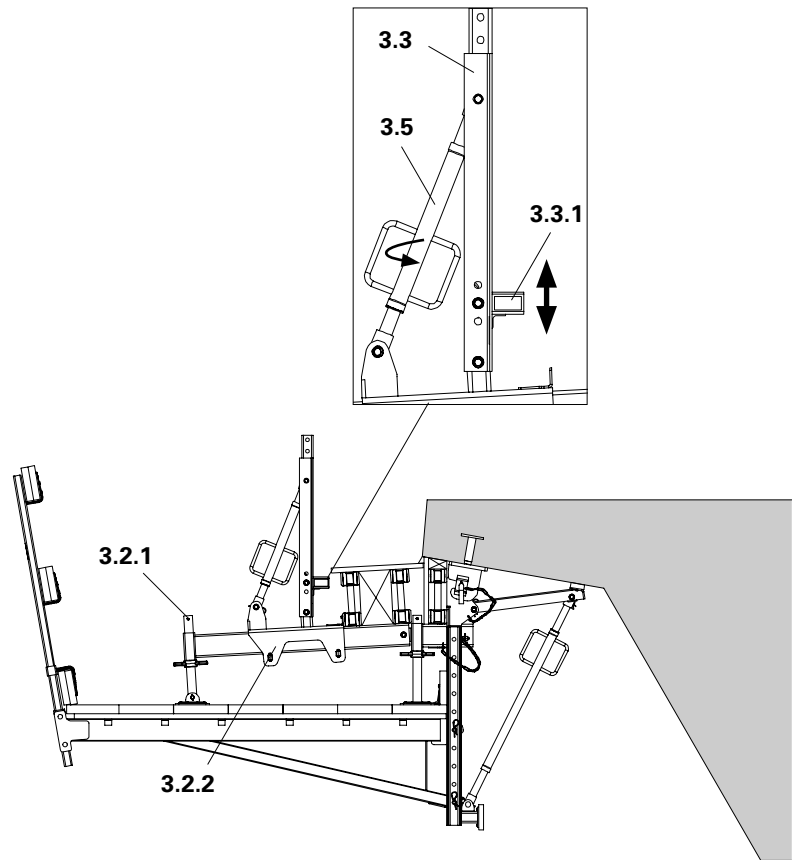

Fig. B3.03
4. Align slab formwork with the Articulated Spindle (3.2.1) and guide carriage (3.2.2), see Fig. B3.03.
3. Insert Beam Support (3.3.1) in the corresponding position. (Fig. B3.03)